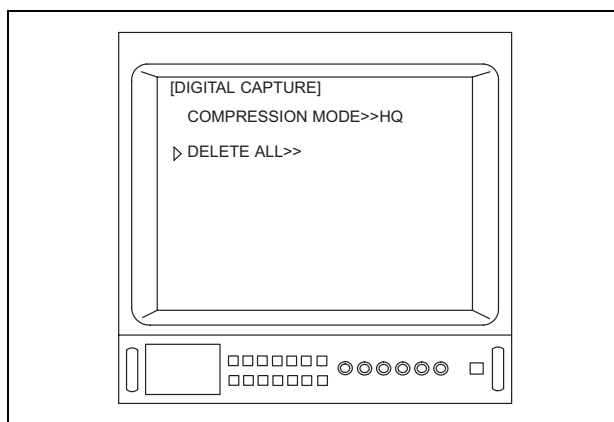

Figure 5.104
6. Depress the menu switches "◀" or "▶", or the "↑/↓/←/→" key on the keyboard to move the arrow "▷" to "DELETE ALL" (see Figure 5.104).
Depending upon the OTV-S7V's settings, the menus shown in Figures 5.104, 5.105, 5.105 and/or 5.106 may appear different from those displayed on the video monitor.